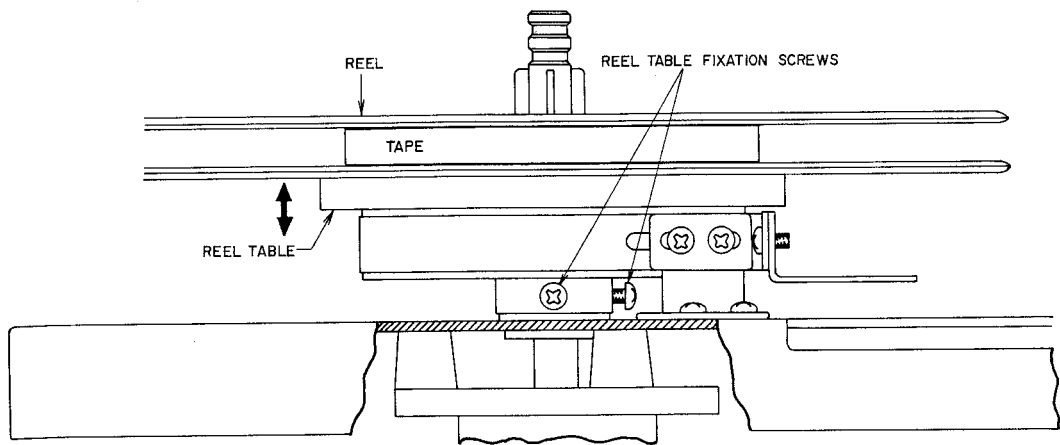

Fig. 5
5. ADJUSTMENT OF REEL TABLE HEIGHT (Refer to Fig. 5)
- 1) Properly load a tape and move the reel table as indicated by the arrow mark in Fig. 5.